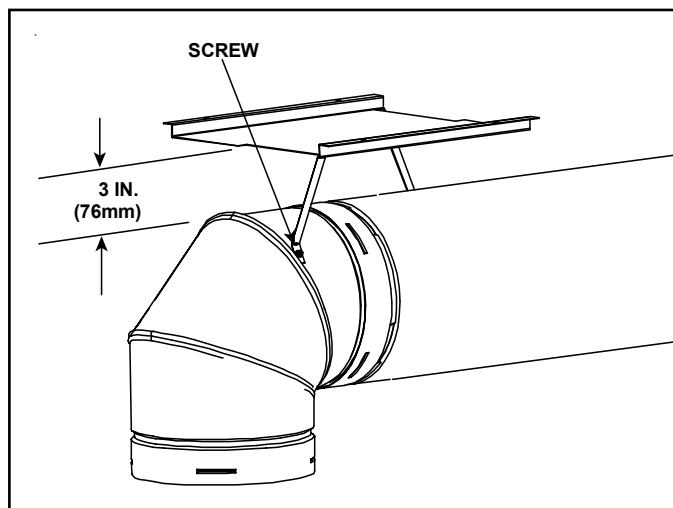

Figure 6.4. Elbow Heat Shield Installed
- If the combustible materials are not in place at the time of install the elbow heat shield may be screwed to the exhaust pipe. See Figure 6.4. Cut the tabs as shown and bend down. Secure the heat shield to the pipe maintaining 3" to 4" between the pipe and shield.
- 90° elbows may be installed and rotated to any point around the preceding component's vertical axis. If an elbow does not end up in a locked position with the preceding component, attach with a minimum of two (2) sheet metal screws.